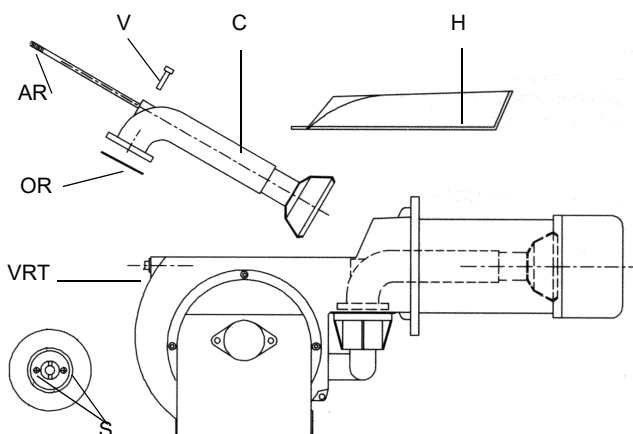

Fig. 31
- Slacken the screws **V** holding the gas manifold **C**, slacken the connectors **B** and remove the complete assembly as shown in Fig. 31.